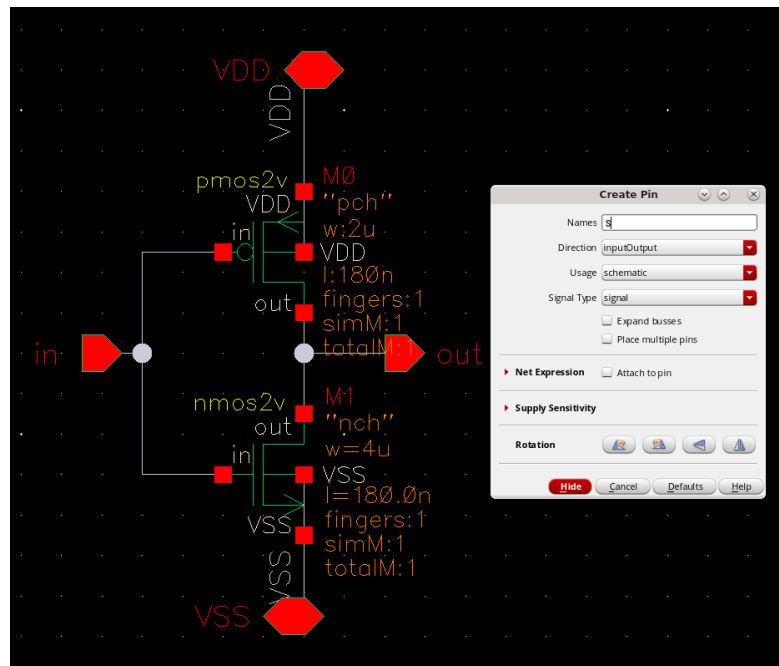

Figure 8: Add Pin
- Define and add "input/output" pins by pressing "p" in Fig. 8.